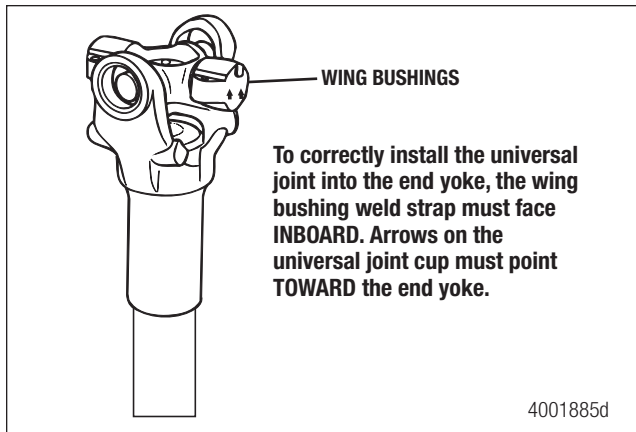

Figure 5.52
2. Install the universal joint into the yoke so that the wing bearing weld straps face INBOARD and the arrows point toward the end or coupling yokes. Figure 5.52.